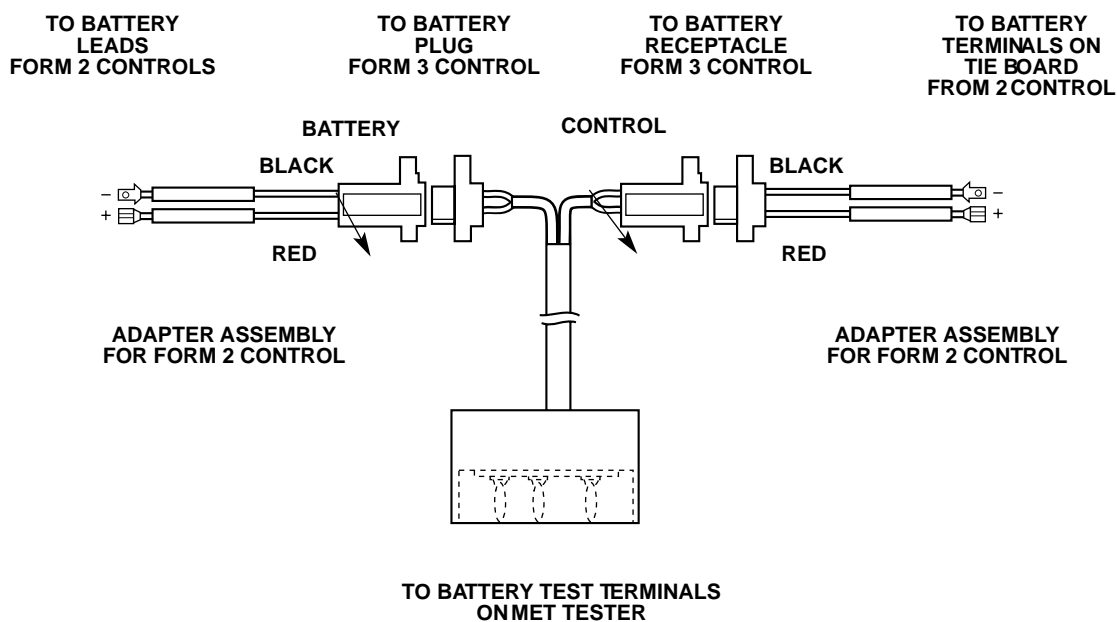

Figure 6.
3. Connect the battery plug into the other (female) plug of the test cable (Figure 6).